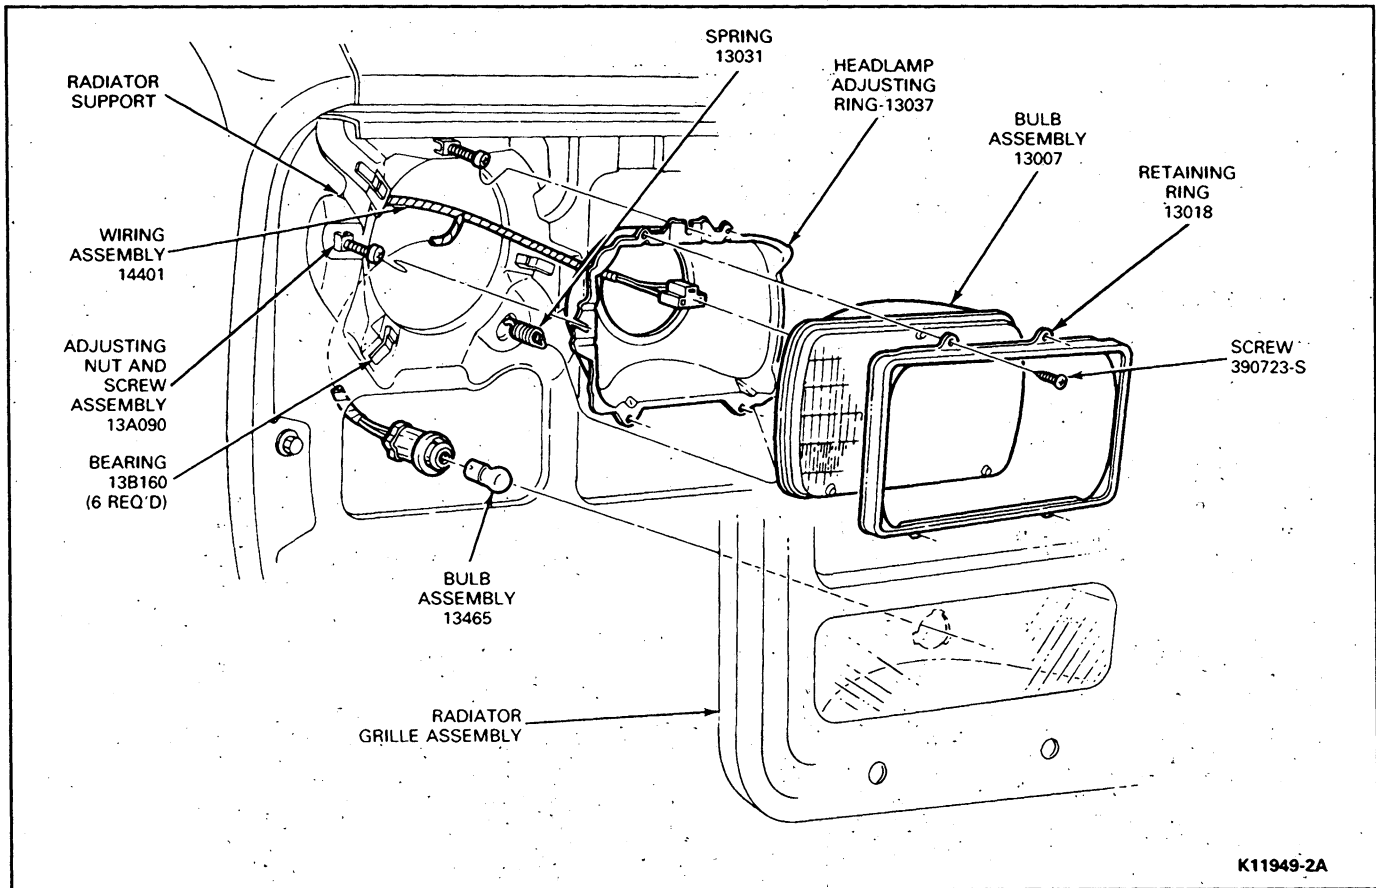

FIG. 6 Headlamp—E-150—E-350
1. Remove the headlamp retaining ring screws (Fig. 6), and remove the retaining ring. Do not disturb the adjusting screw settings.
2. Install the headlamp retaining ring (Fig. 6).